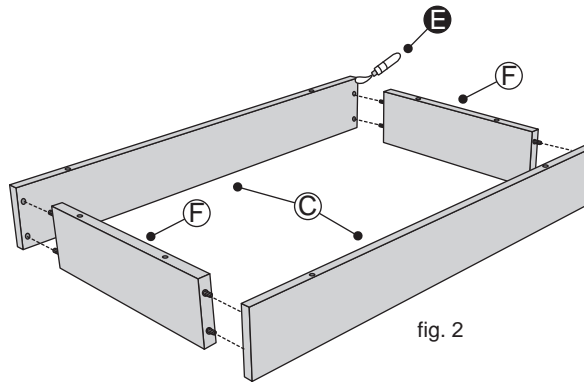

fig. 2
2. Place a small amount of Glue **E** into the dowel holes and onto the joints surfaces. Fix the Base Panels **C** onto the Base Side Panels **F**. See fig. 2.